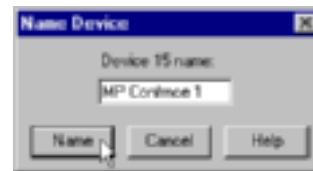

Figure 8 – Name Device Dialog
- b) The Name Device dialog appears, as pictured in figure 8 on the right.